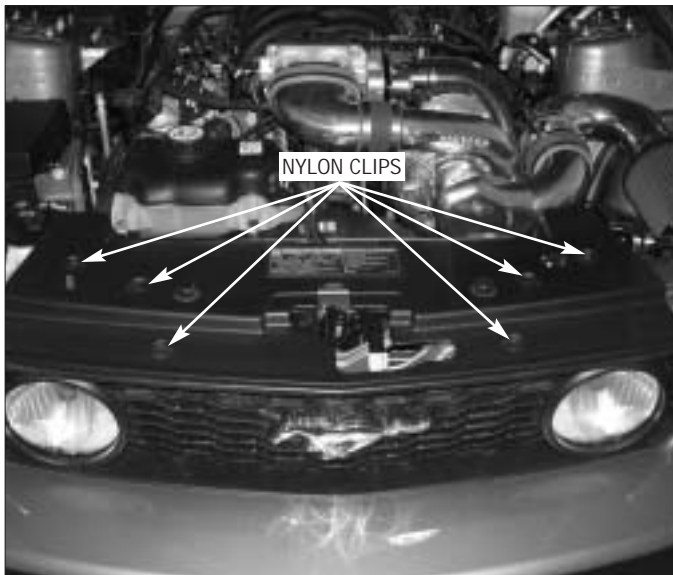

Fig. 1-a
- B. Remove the six nylon clips retaining the upper radiator core support cover. (See Fig. 1-a.)